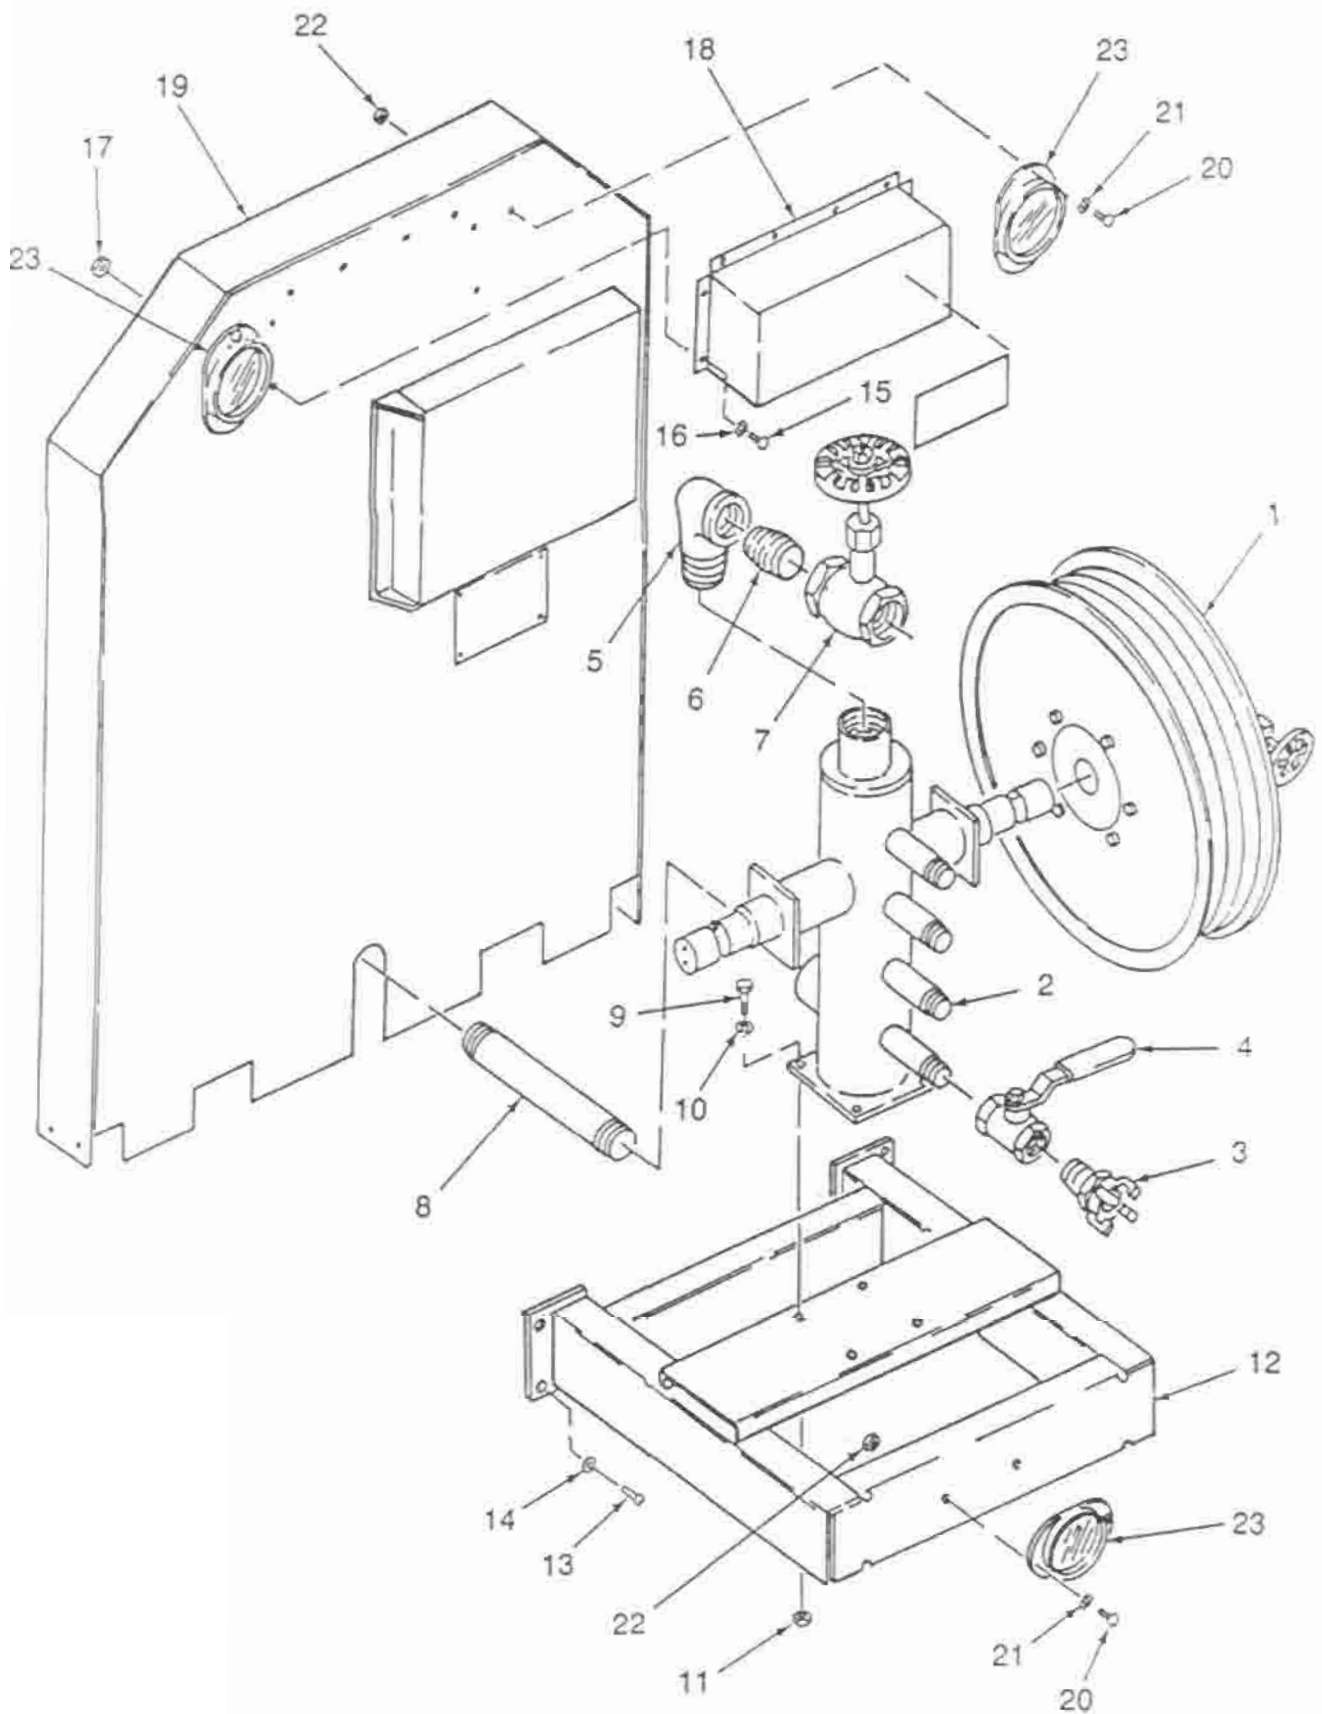
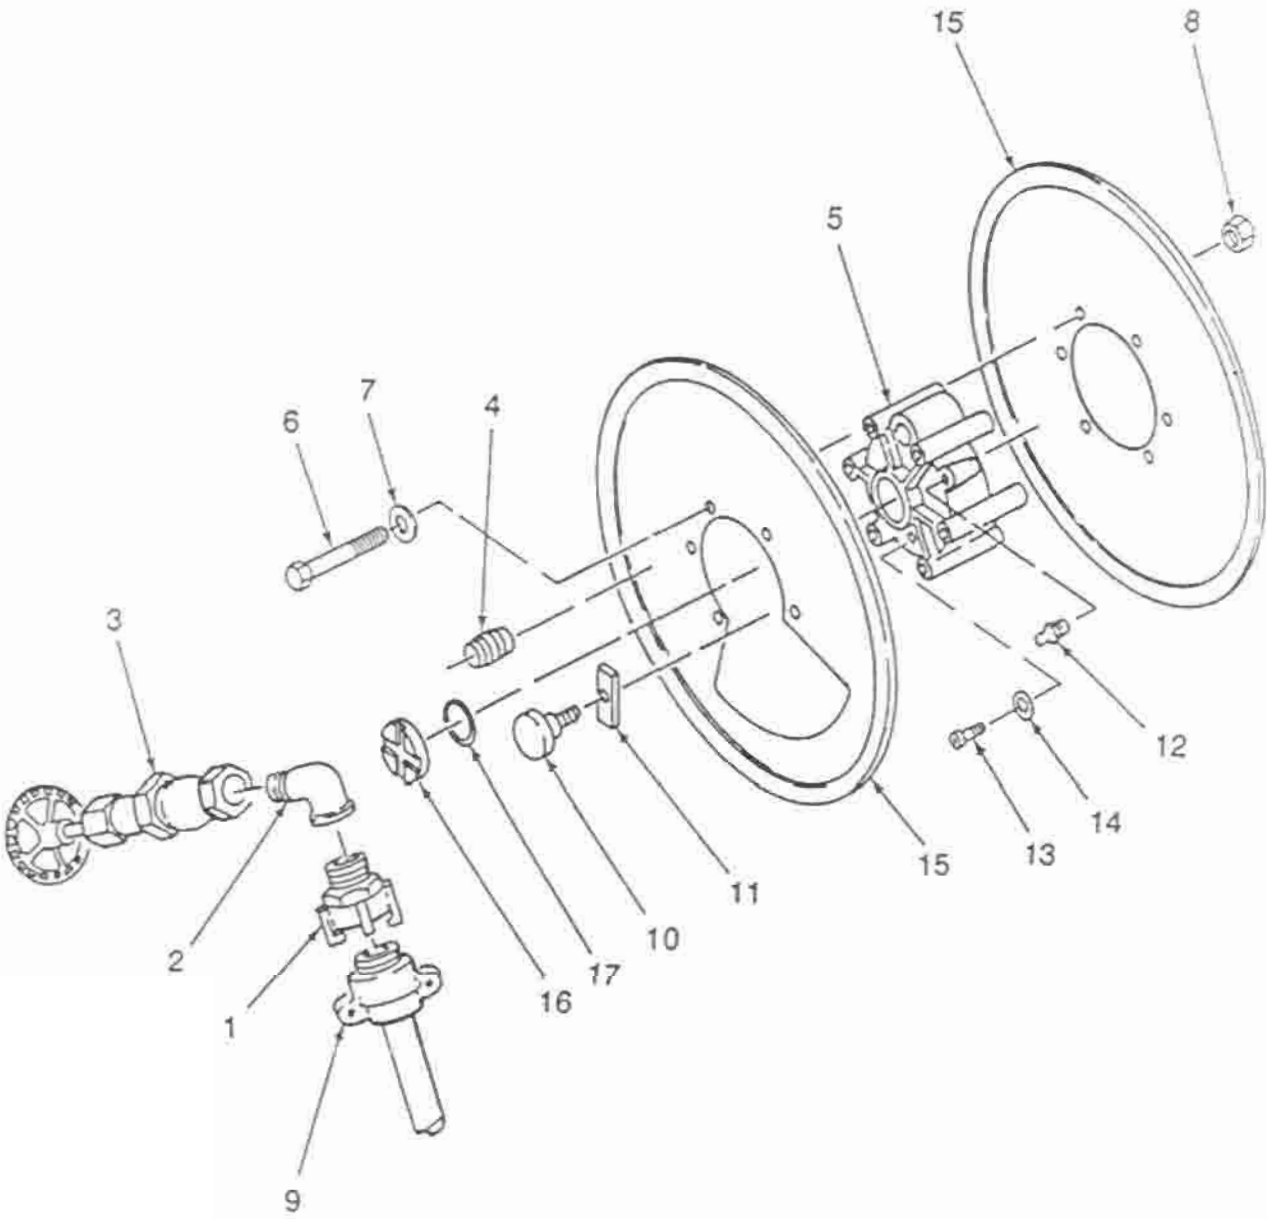

Figure 3-5. Hose Reel Assembly And Service Manifold
Figure 3-6. Hose Reel Disassembly
3-14. Hose Reel Assy And Service Manifold. (Refer to Figure 3-5).
a. Remove service hoses (9, Figure 3-6) from hose reels assemblies (1, Figure 3-5). Remove hose reel assemblies (1) from service manifold (2) by removing the hose reel retainer (16, Figure 3-6). Refer to paragraph 3-15 for additional details.
1. Remove four claw couplings (3), four ball valves (4) from service manifold (2).
c. Remove elbow (5) from top of service manifold (2) and remove nipple (6) from elbow (5) and globe valve (7).
KEY TO FIGURE 3-6
3-15. Hose Reel Disassembly (Figure 3-6). After removing hose reel from compressor unit (para. 3-14, step a), disassemble hose reel as follows: